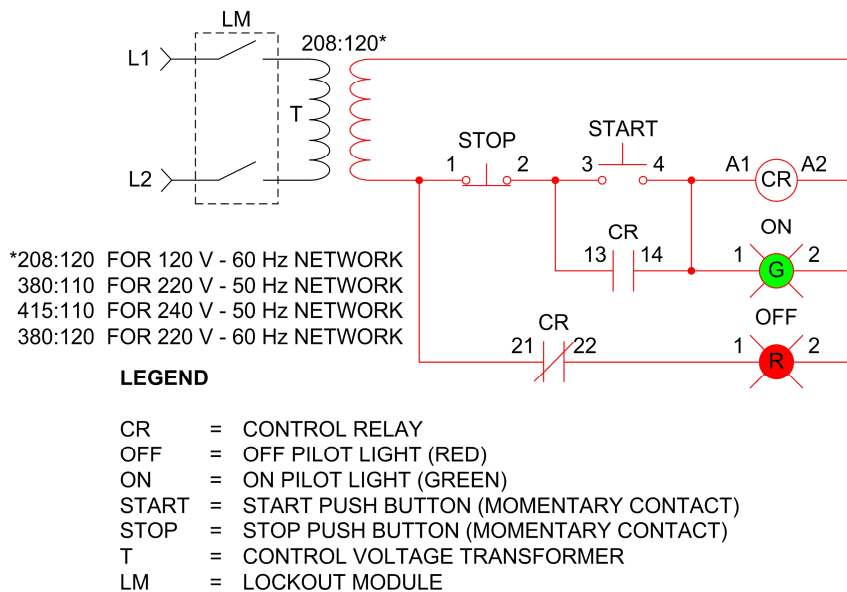

Figure 1-13. Latching circuit with a control relay.
Figure 1-13 shows a hardwired latching circuit controlling red and green pilot lights. When the START push button is pressed, the control relay contact closes, keeping the green pilot light on as long as the STOP push button is not pressed.
- ☐ 2. Figure 1-13 shows the schematic diagram of a basic latching circuit with a control relay.